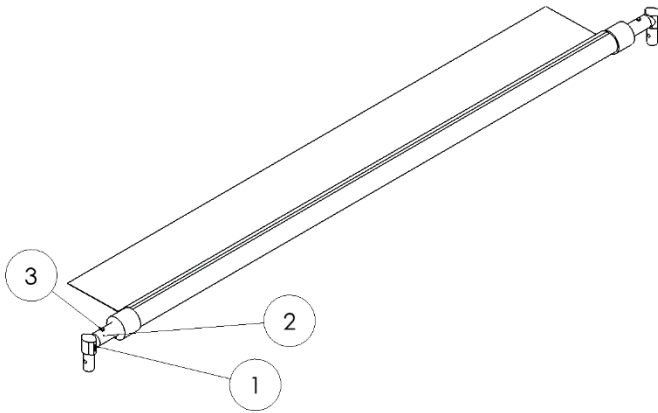

Figure 4.9
Remove the 90-degree corners (1) from the side arms and place them on each end of the cross tube (2) so that they point in the same direction and secure them to the cross-tube with 1/4" x 2-1/4" hex bolts and hex nuts (3) as shown in Figure 4.9.